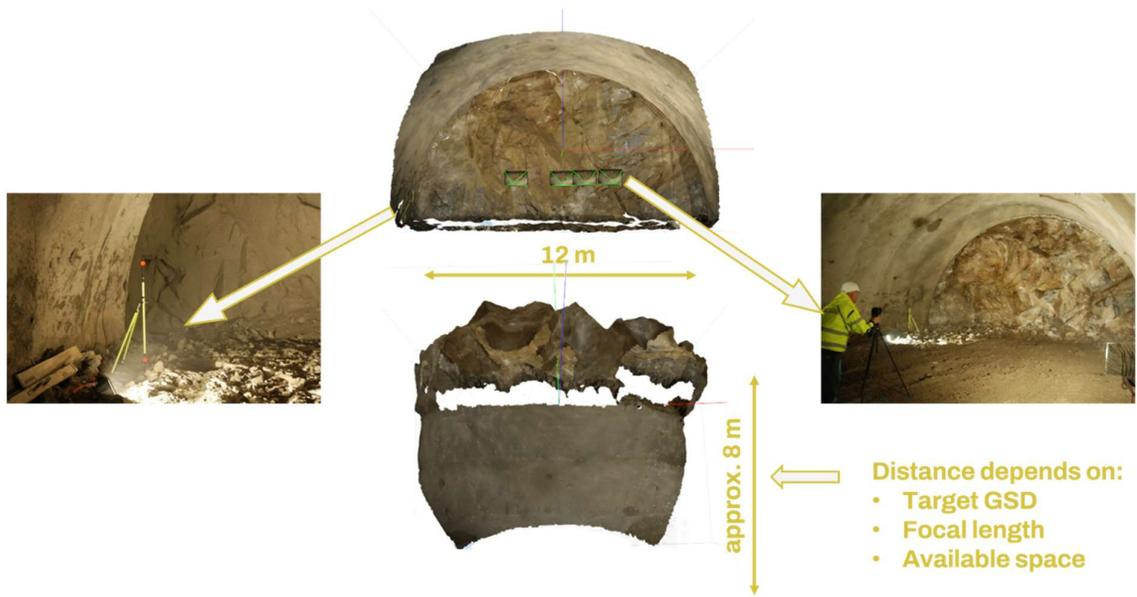

Figure 17: Example of imaging a tunnel face
5. Choose a distance where the tunnel face is imaged almost maximal. The measuring area should fill the image tot maximum extent. A part of the tunnel wall shall be visible with the image. See Figure 17. The chosen distance depends on:
5. Choose a distance area of interest is imaged almost maximal. The measuring area should fill the image to the maximum extent. See Figure 17. The chosen distance depends on: